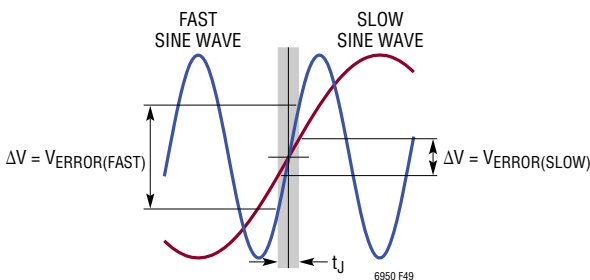

Figure 49. Fast and Slow Sine Wave Signals Sampled with a Jittery Clock
Degradation of the SNR due to sample clock jitter only occurs if the input signal is slewing. If the input signal is stationary (DC) then it does not matter when in time the sampling occurs. Additionally, a faster slewing signal yields a greater error (more noise) than a slower slewing signal. Figure 49 demonstrates this effect. Note how much larger the error term is with the fast slewing signal than with the slow slewing signal. To maintain the data converter’s SNR performance, digitization of high input frequency signals requires a clock with much less jitter than applications with lower frequency input signals.